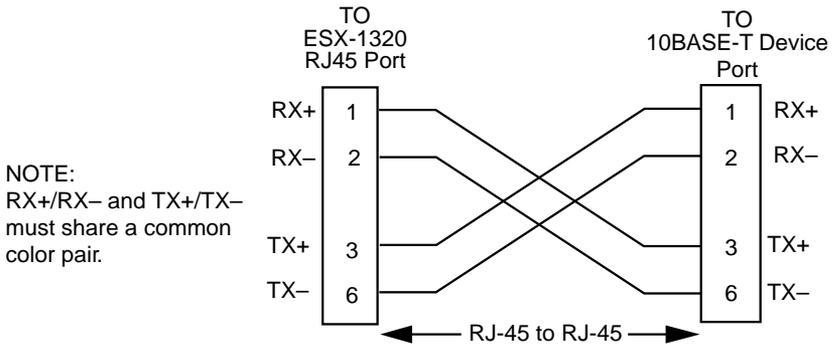

Figure 3-15 Cable Pinouts - (RJ45) Crossover Cable
- b. Verify that the RJ45 connectors on the twisted pair segment have the proper pinouts (Figure 3-15) and check the cable for continuity.